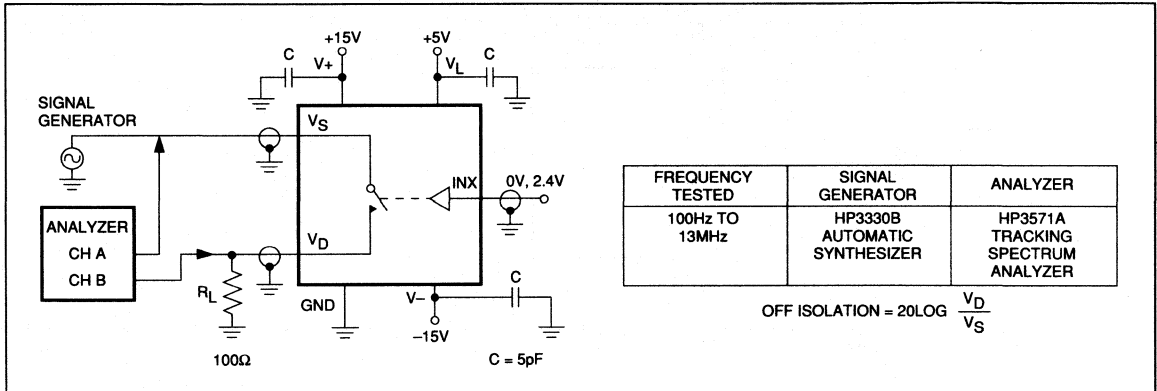

Figure 4. Off-Isolation Test Circuit
**Note 5:** See Figure 4. Off isolation =  $20 \log_{10} V_D/V_S$ ,  $V_D$  = output,  $V_S$  = input to off switch.